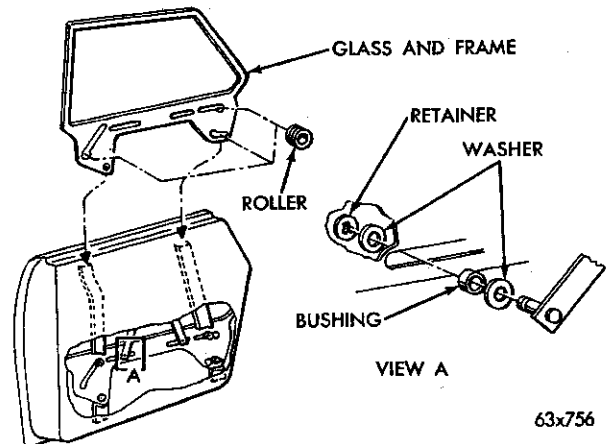

Fig. 80—Rear Door Glass Assembly (Chrysler 4 Dr. Hard Top and Town and Country)
(4) Lubricate the regulator arm pins, rollers and window lower channel guides.
(5) Engage the regulator arms into the glass lower channel and attach the retaining clips.
(6) Operate the glass up and down several times and check for ease of operation.
(7) Inspect and adjust the down stop. (The top edge of the door glass should be level or slightly below the door frame).
(8) Install the weathershield, trim panel, inside handles and arm rests (if so equipped).
**73. REAR DOOR GLASS (Four Door Hard Top and Town and Country) (Figs. 80 and 81)**